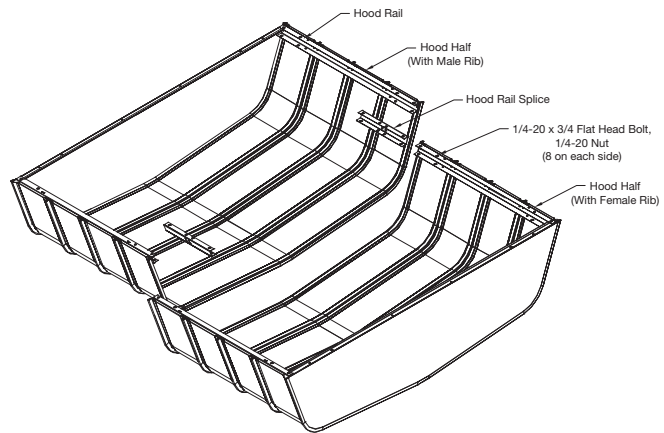

Figure 3 — 3FKE2 & 3FKE3 Hood Assembly
1. Refer to Figure 3. Place male rib (narrower rib) hood half into the female rib (wider rib) hood half. Insert the hood rail splice into the hood rails and fasten with (8) 1/4-20 x 3/4 flat head bolts and (8) 1/4-20 nuts on each side.